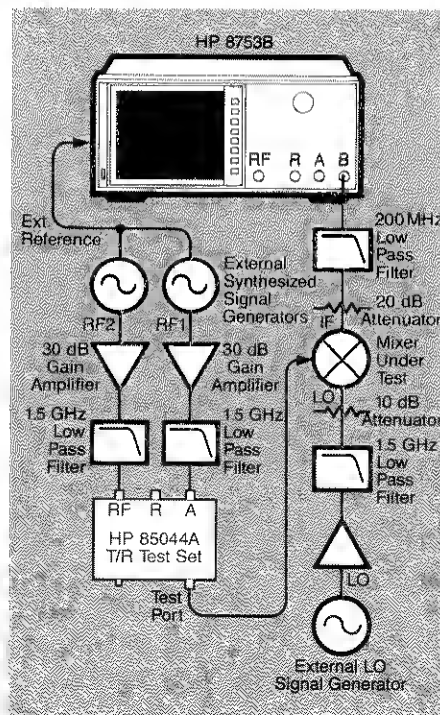

Figure 16. Block diagram for a two-tone third order intermodulation distortion (IMD) measurement.
Figure 16 shows a block diagram for a third order IMD measurement made with the HP 8753B. The filters, attenuators and amplifiers provide isolation and remove unwanted signals from the system. These are essential to accurate measurements, because signal levels as low as 60 dBc can degrade third order IMD measurements.
7. Connect the instruments as shown in figure 16, tying all time bases together (EXT REF). To minimize the effect of system distortion, it is suggested that attenuation at the mixer's IF port be chosen to give receiver input levels of -10 dBm or less.